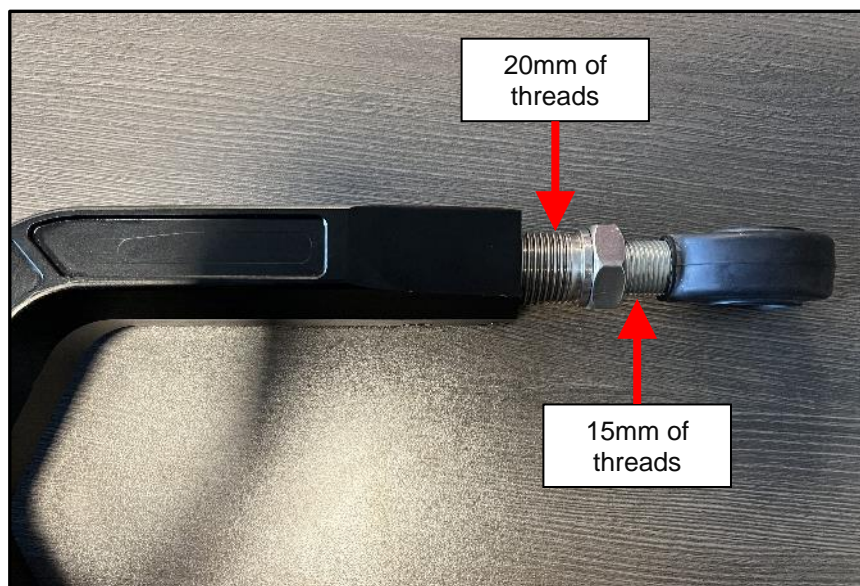

Figure 6
18. The maximum safe extension of the Adjuster and Heim Joint is 20mm of exposed thread on the Adjuster and 15mm of exposed thread on the Heim Joint End. *Figure 6.*